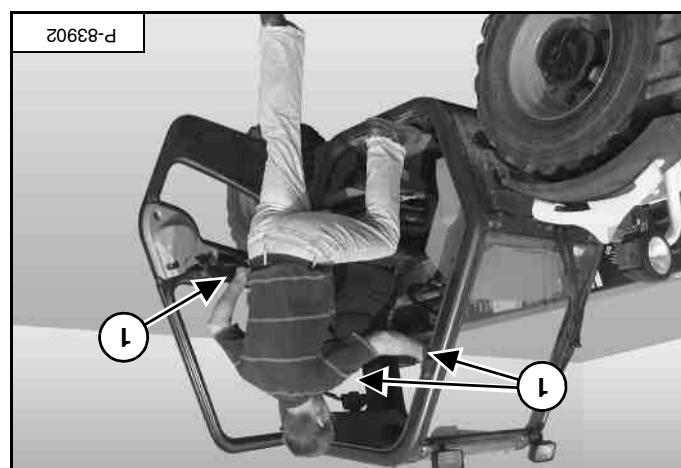

Figure 73
Use the hand grabs (item 1) [Figure 73] to enter the operator cab.